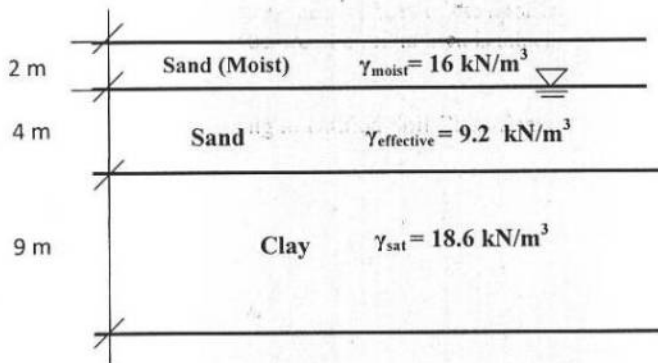

Figure 1
6. A clay stratum of thickness 9 m is located at a depth of 6 m below the ground surface (Figure 1). It is overlain by fine sand. The water table is located at a depth of 2 m below the ground surface. For sand, effective unit weight is 9.2 kN/m^3 . The moist unit weight of sand located above water table is 16 kN/m^3 . For clay layer, saturated unit weight is 18.6 kN/m^3 . Compute the effective stress, the total stress and the pore water pressure at the bottom of the clay layer. Also compute the total and effective stresses at the bottom of the clay layer, if water level in the sand is suddenly lowered by 1.5 m.